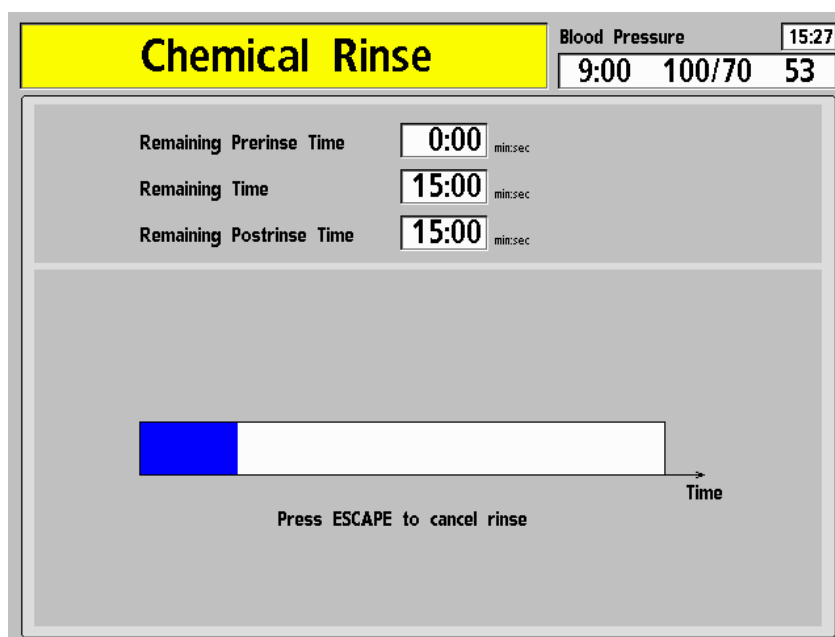

Figure 55 – The Chemical Rinse Screen
4. The “Chemical/Rinse” screen appears in the display (see Figure 55). The progress of the disinfection program is indicated by the horizontal bar. The program starts with a 45 second rinse. The message, “Rinsing Lines, Please Wait” is displayed in the Status Box.